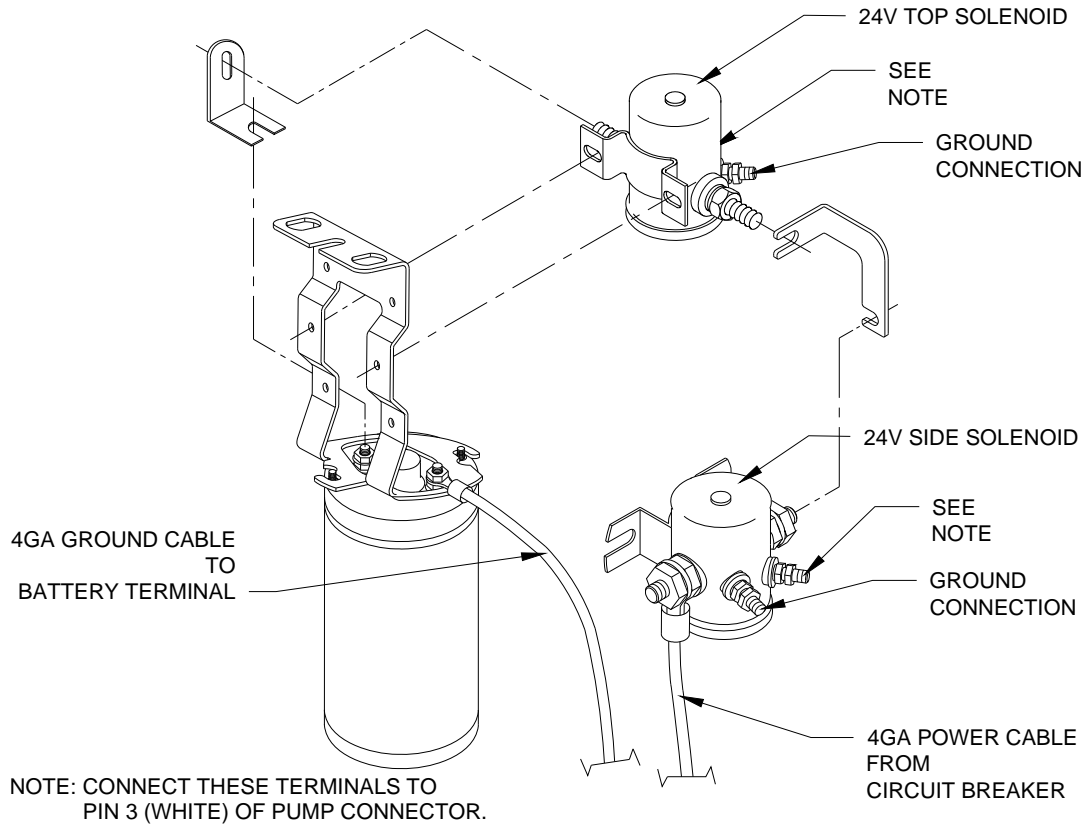

FIGURE 2-13: 24VDC DUAL SOLENOID WIRING
- 2) Refer to **Figure 2-13**. The ground cable is connected from the negative stud (-) on pump motor to the negative battery terminal.